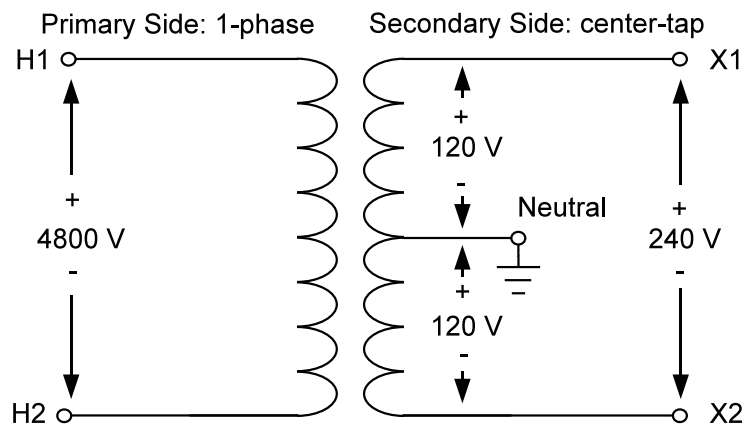

Figure 1: Center Tapped Transformer 2
2. **Note: A center-tapped transformer problem will not be on your test.** Figure 1 shows a schematic for a single-phase, center-tapped transformer used to convert a voltage of 4800 V to voltages of 120 V / 240 V. A center-tapped transformer is a standard transformer with an extra terminal connected to the very center of the secondary coil. If this terminal is grounded so that there is a 0 V reference at the center of the secondary coil, then two 120 V voltages and one 240 V voltages are available as shown in the diagram. The center-tap terminal is generally also connected to the neutral supplied to a load.